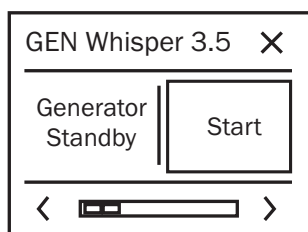

Figure 5: initial screen of the *MasterView Easy* connected to a *Whisper* generator set.
After commissioning of the generator set (see installation manual of the generator set), the generator set will be recognized by the *MasterBus* network automatically. This may take a few seconds. Then the *MasterView Easy* will show the initial screen (see figure 5)
- 1 Make sure that the *Whisper* generator is not running and that the initial screen is shown (see figure 5).
- 10 Now touch the X in the right upper corner twice to return to the initial screen (figure 5).